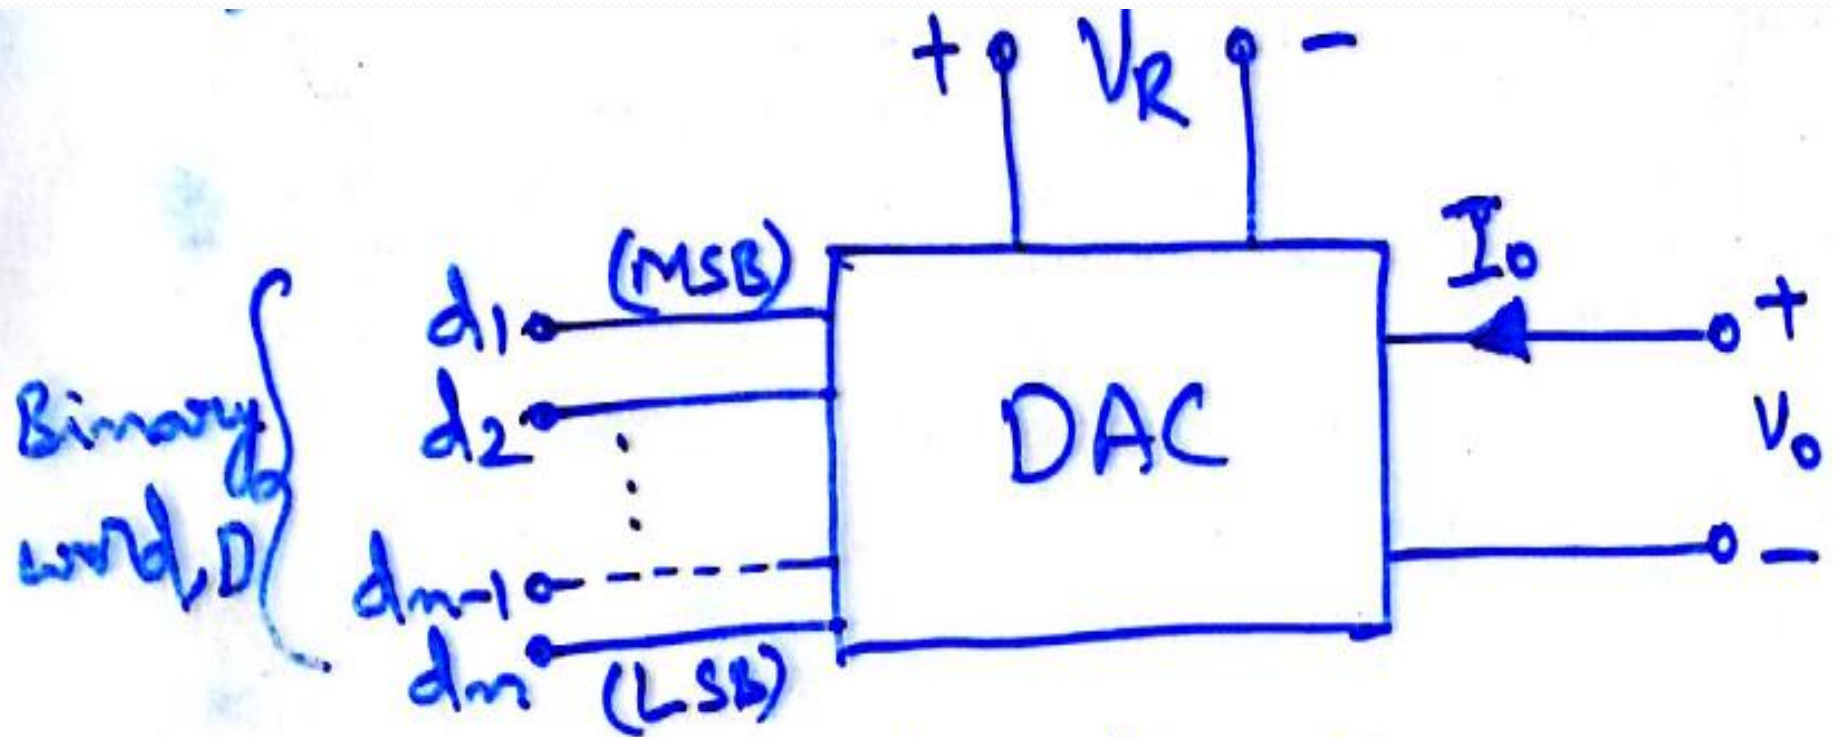

Fig 10.2 Schematic of a DAC
- The schematic of a DAC is shown in Figure 10.2.